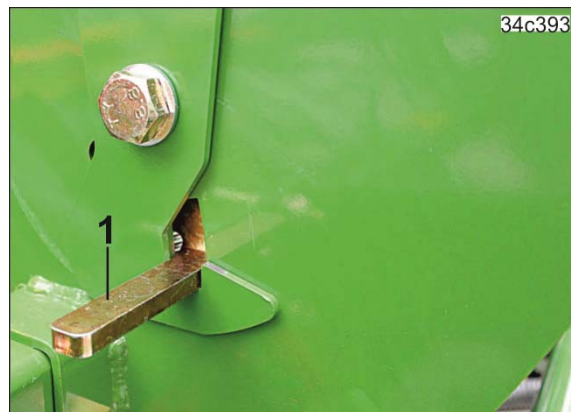

Fig. 108
2. Pull up the lever (Fig. 108/1).